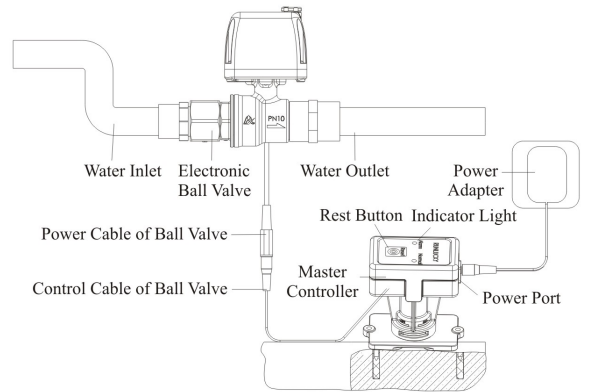

Figure 7
- ①. Wiring of single detection point, as Figure 7 shows.